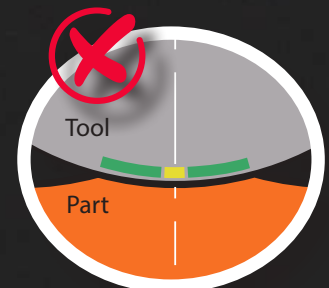

Fig. 3
**Tangency of the ball, to the material** - The most efficient cutting action in a ball-nosed endmill occurs when it is positioned distant from the center of the tool, where it is in contact with the material. The central part of the ball nose endmill, as shown by the "yellow highlight" in figures 3 and 4, does not play a role in the cutting process. Consequently, it might lead to a smearing effect as it forcefully pushes through the material without any assistance from the surface feet per minute (SFM) in terms of shearing.